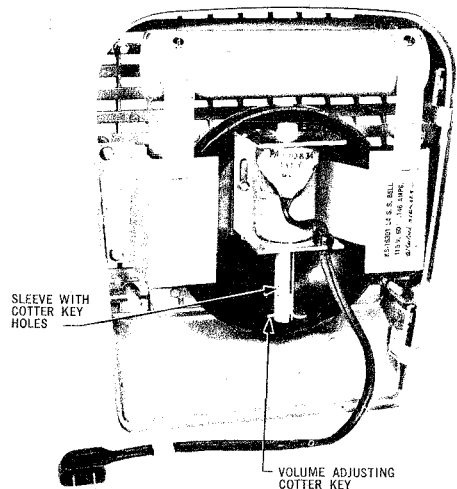

Fig. 8 — NS-16301, Type Bell, Single Stroke
4.02 The volume of the single stroke bell may be adjusted by means of a cotter key, which is the backstop for the plunger (see Fig. 8). The signal is shipped with the key inserted through the lowest of the three holes in the sleeve that contains the plunger, thereby providing maximum volume. To decrease volume, move cotter key to intermediate or top hole in the sleeve. This adjustment was not provided on some bells of initial manufacture.